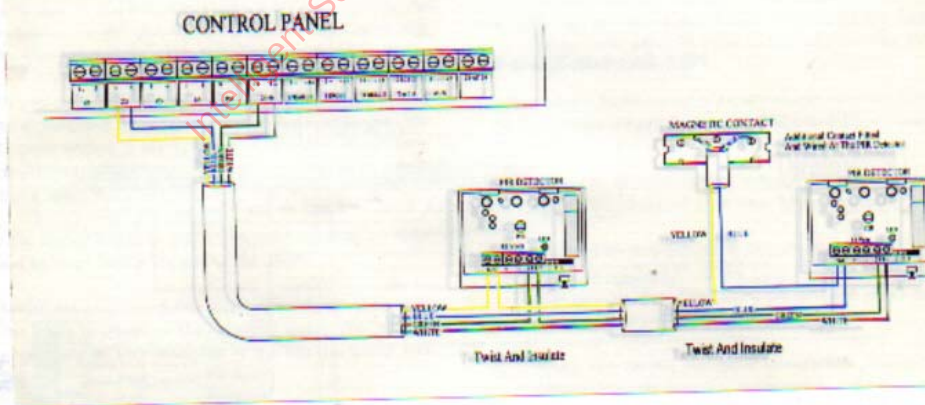

Fig.12. Series Wiring Example Detector to Detector With One Cable Returning To The Control Panel (Daisy Chain)
2. The green and white 24 hour connections are wired in 'Series' with other 24 hour zone wiring, as described for the alarm contacts, (see Fig. 12.)